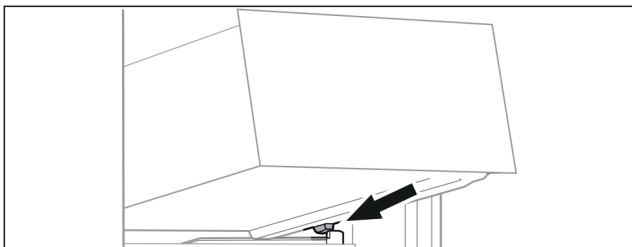

Fig. 76
- ▶ Place drawer at an angle behind the stoppers on the moulded rib. (see Fig. 76)